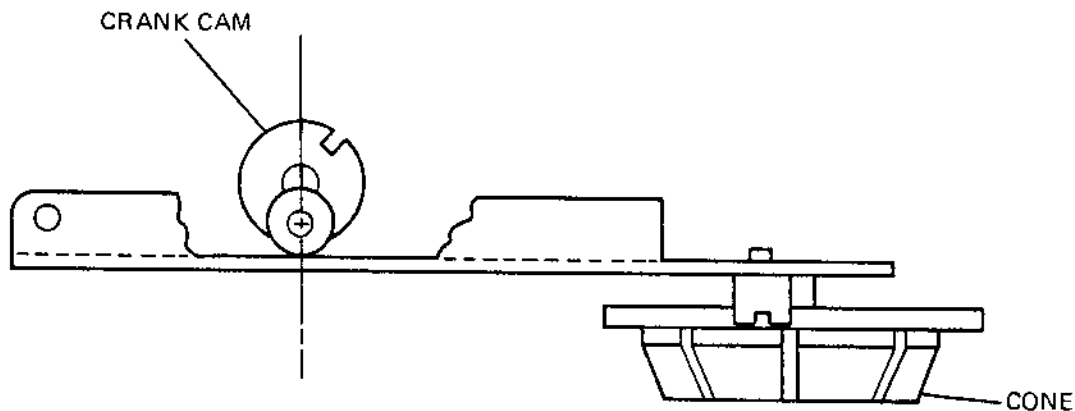

Figure 2-8B. Eject Motor Cam Alignment Check - Carrier Closed
- c. Observe the crank cam moves to a bottom dead center position relative to the carrier plane, i.e., maximum penetration of cone assembly into hub. (Figure 2-8B.)